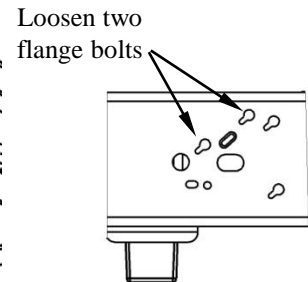

Figure 2b
2. **On Pickups with OE Trailer Brake Controller:** Relocate the electrical plug that is located on the inside of the driver's side frame rail over the rear wheel (Figure 2a). The plug may be removed from the frame by loosening the two bolts on the outside of the frame and pushing the bolt heads through the key hole slots, as shown in Figure 2b. Attach the plug to the angle bracket supplied with the mounting kit. The bracket will be attached to the inside of the frame with a 5/8" bolt at a later installation step.